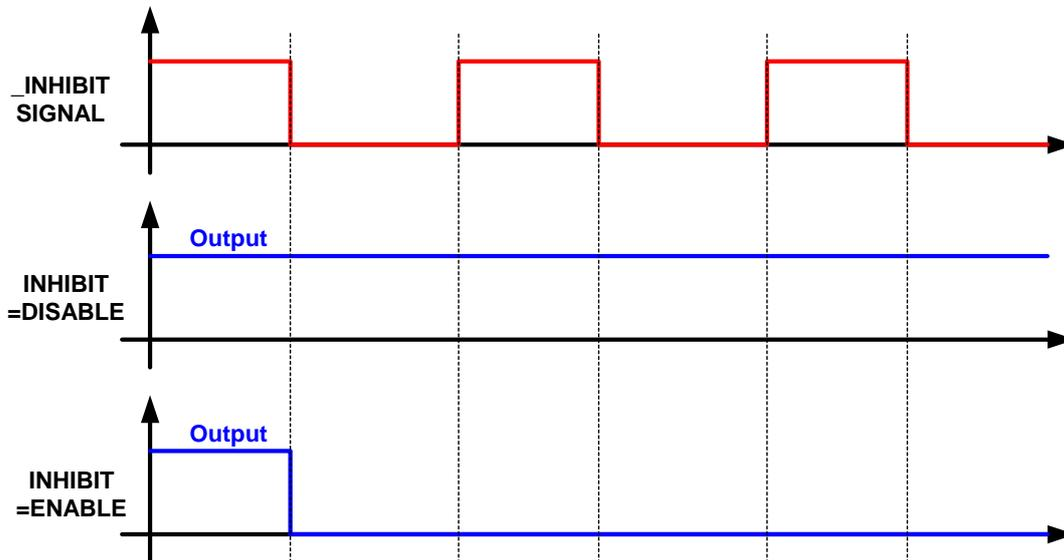

Figure 3-72
- When the DC Power Supply is set to **OUTPUT = ON**, the detail actions of REMOTE INHIBIT are shown in Figure 3-72.